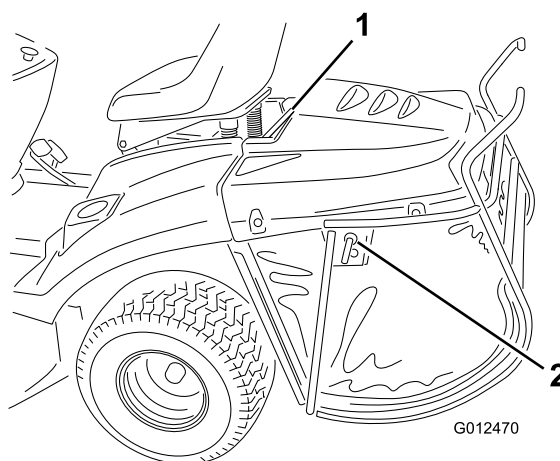

Figure 35
1. Lock the locking pin on the grass collector (Figure 35).
2. Lift up the collector using the top support bar (Figure 35).